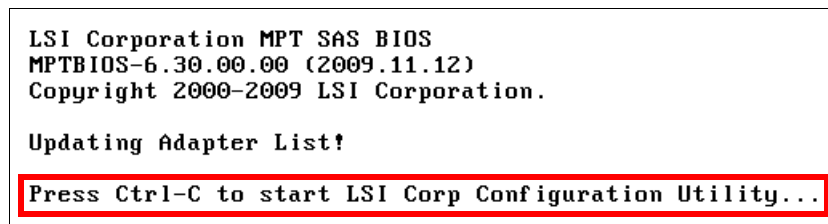

Figure 8-22 Cntrl-C option for LSI on boot
5. When the system reboots, the LSI boot information displays. Press Ctrl-C when prompted, as shown in Figure 8-22.